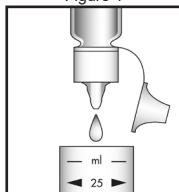

Figure 2
2. Add 3 drops of S-9500 Activator Solution (fig. 2). Stir to mix the contents of the cup.